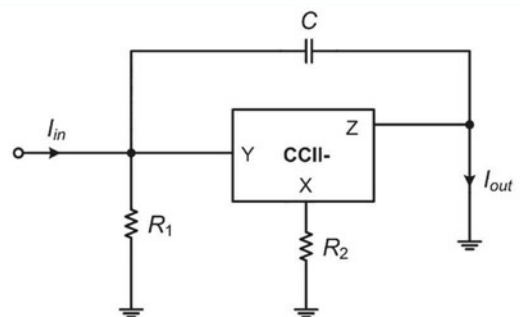

Figure 3: Proposed first-order CM APF circuit
Figure 3 shows the suggested CM first-order APF, which consists of only one CCII-, two grounded resistors and a floating capacitor.
The transfer function (TF) of the APF in Figure 3 with $R_1 = R_2 = R$ can ideally be written as:
where the phase changes from 180° to 0° as the frequency varies from zero to infinity. In Figure 3, if an RC-CR transformation is achieved, the CM APF employing a single floating resistor and two grounded capacitors has the following TF:
A straightforward analysis of the APF in Figure 3 with non-ideal gains gives the following TF:
Simulations of the proposed APF were undertaken using the SPICE program. The proposed APF in Figure 3 is simulated using 0.13 μ m IBM CMOS technology parameters. Symmetrical DC power supply voltages are chosen as $V_{DD} = -V_{SS} = 0.75$ V. The bias voltage V_B in Figure 2 is chosen to be -0.16 V.